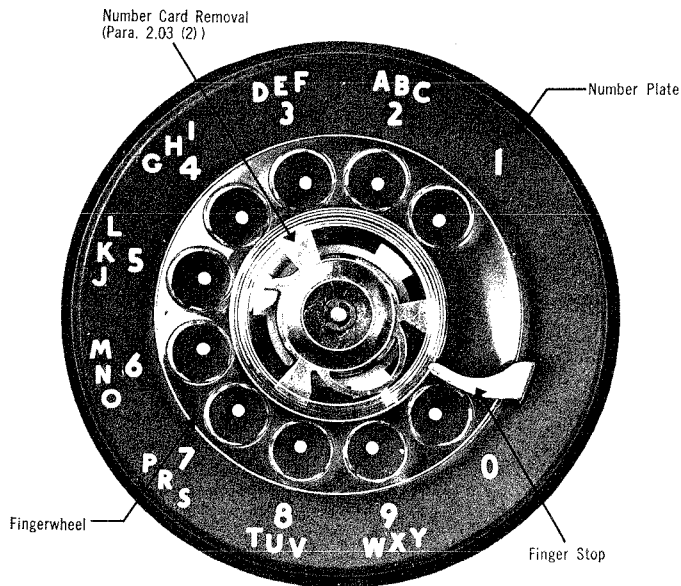

Fig. 1 — QDB-Type Dial — Front View
2.01 The QDB-type dial (Fig. 1 and 2) is a direct replacement for the No. 7-type dial.